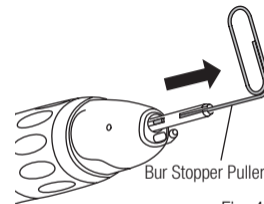

Fig. 4
- 2) Insert the supplied Bur Stopper puller into the chuck. Pull out the Bur Stopper by hooking at the slit of Bur Stopper. (Fig. 4)